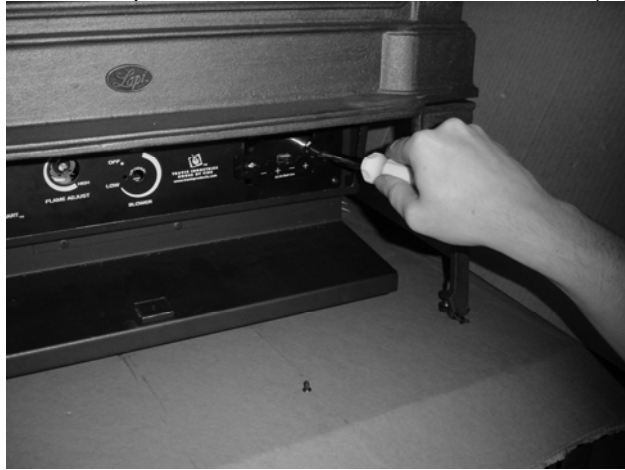

Figure 31
- 20 Attach the receiver to the control panel with the two #8 machine screws (Figure 31).